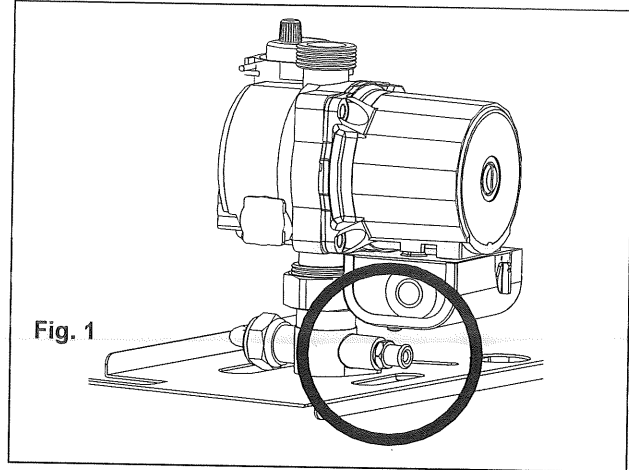

Fig. 1
- Open the system drain valve (fig. 1).
- **If only the boiler needs to be drained, close the flow/return isolating valves on the heating circuit and open the drain valve R located at the bottom of the boiler on the pump manifold (see fig. 1 );**